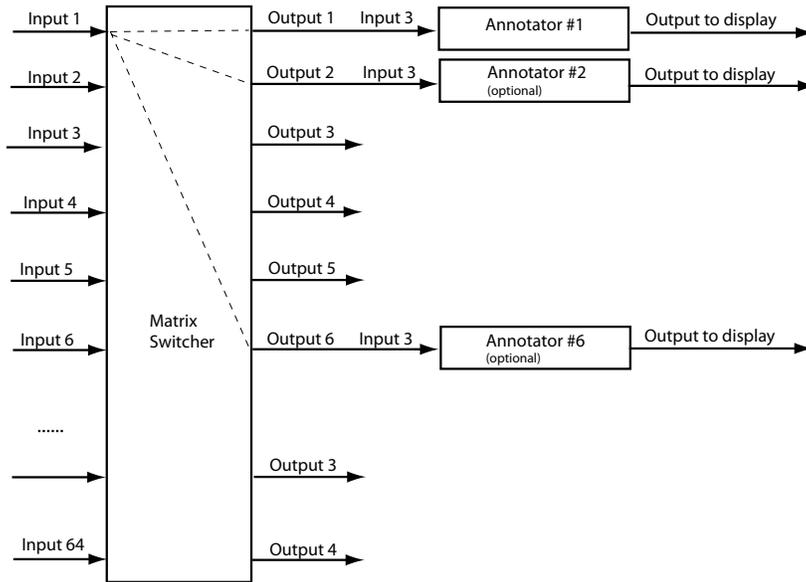

Figure 3-8 — Multiple Annotator's connected to a Matrix switcher
2. Tie input 1 of the matrix switcher to whichever matrix switcher output is connected to input 3 of the Annotator (see figure 3-8).